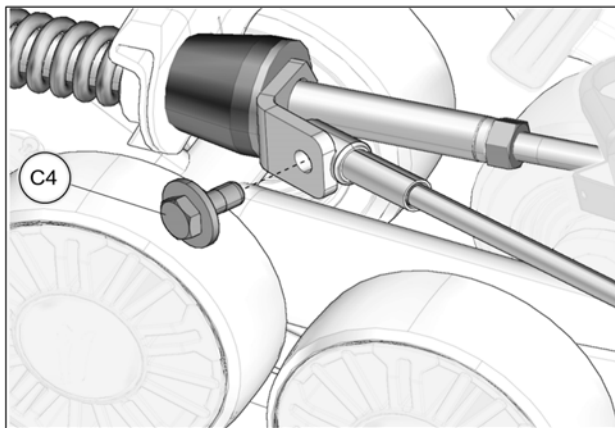

Fig. 27
19. Reverse steering wheel a little to be able to bolt support plate and cable together. Tighten provided bolt (C4) to 35 N•m [24 lb•ft]. See Fig. 27. Repeat steps on right side.